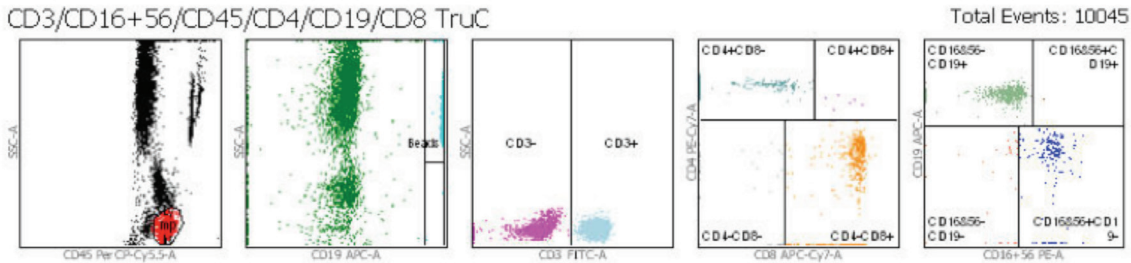
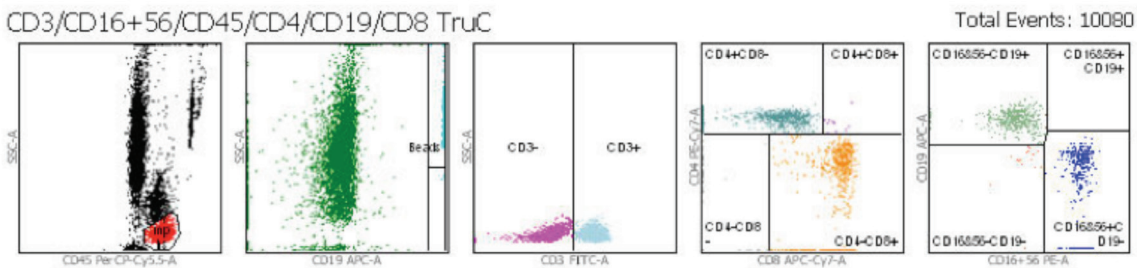
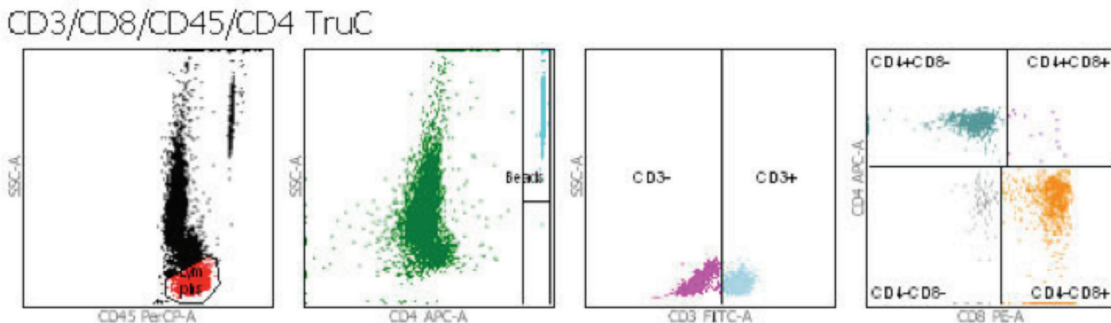

Figure 23a: Fresh whole blood sample showing adequate resolution between the CD3⁺ and CD3⁻ lymphocytes
Figure 23b: BD Multi-check control showing decreased CD3⁺ separation
Figure 23c: Controls from another manufacturer with decreased CD3⁺ separation
- Commercial process controls frequently will have dimmer than normal CD3 staining. Since the interval gates are defined based on staining patterns observed in fresh whole human blood, the CD3⁺ interval gate might need to be adjusted on both tubes of a two-tube panel. Verify that each subset is properly classified. Figure 23a shows a fresh whole blood sample stained with the BD Multitest™ CD3/CD16+CD56/CD45/CD4/CD19/CD8 cocktail for comparative intensities and separations. Figure 23b shows a BD Multi-check control stained with the BD Multitest CD3/CD16+CD56/CD45/CD4/CD19/CD8 cocktail. Figure 23c shows another vendor's control stained with the BD Multitest™ CD3/CD8/CD45/CD4 cocktail.
CD4 process controls from other suppliers may exhibit the staining pattern seen in the Figure 23c.